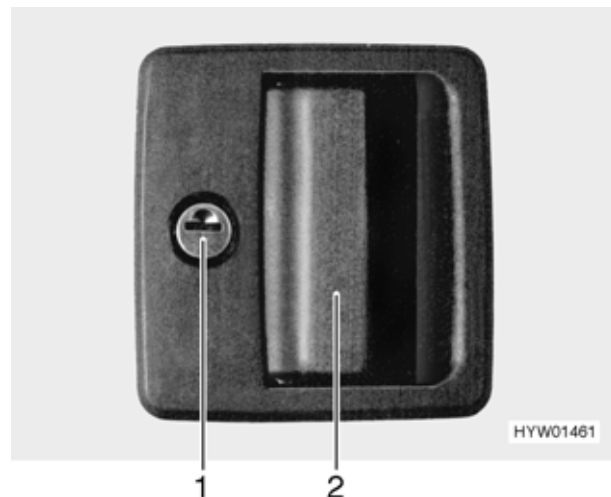

Fig. 26 Door lock of conversion and driver's door, outside
- Insert the key into locking cylinder (Fig. 26,1) and turn in a clockwise direction until the lock is unlatched.
- Open the door by pulling on the handle (Fig. 26,2).
- Insert the key into locking cylinder (Fig. 26,1) and turn in an anticlockwise direction until the lock is engaged.